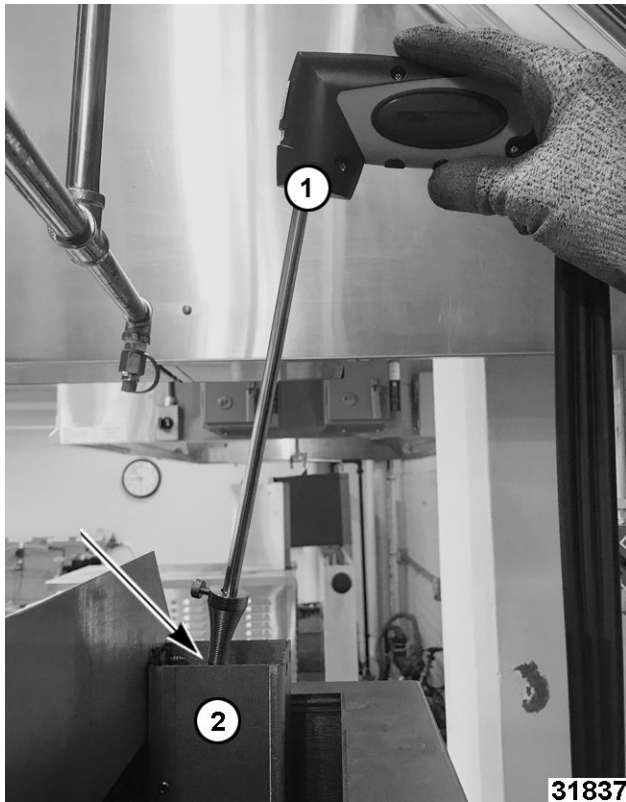

**Fig. 48**
3. Check solenoid on/off switch to verify it is in the ON (Fig. 48) position.